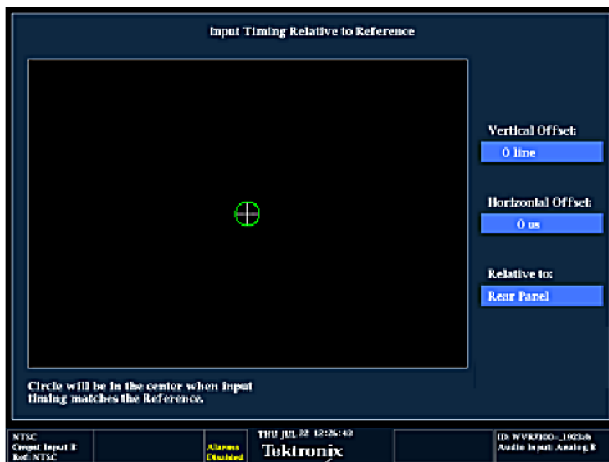

Figure 2: Timing display of integer multiples of reference rates
**Integer multiples of reference rates.** If you are timing input signals with rates that are integer multiples of the reference rates, the instrument can measure the timing deterministically and displays the relationship as one circle (offset) relative to the cross-hair. (See Figure 2.)